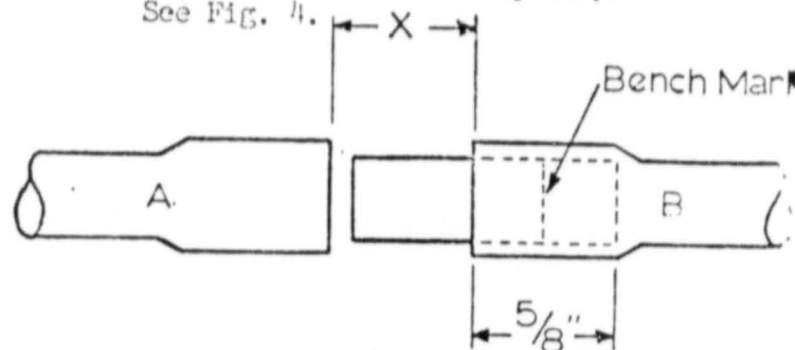

Figure 4
- 1) Insert the four (4) male coupling nipples into the swedges of collector "B" until they stop. See Fig. 4.
- j) Carefully place collector "B" into position. Note there is only $1/8"$ gap between end of header swedge and edge of nipple. See Fig. 4.